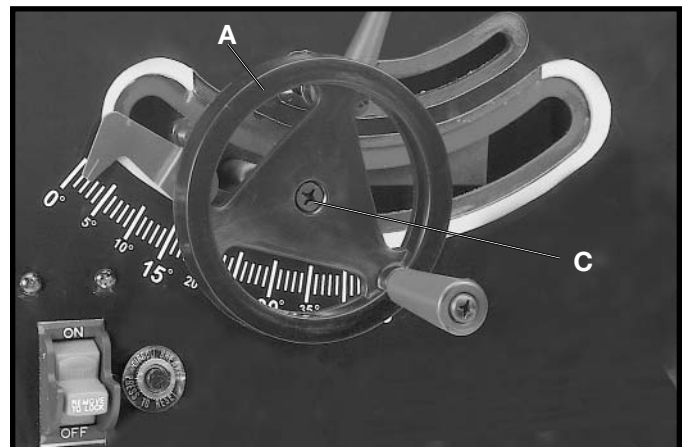

Fig. 8
4. Fasten handwheel (A) Fig. 8, to shaft using a M6x1x12mm flat head screw (C).